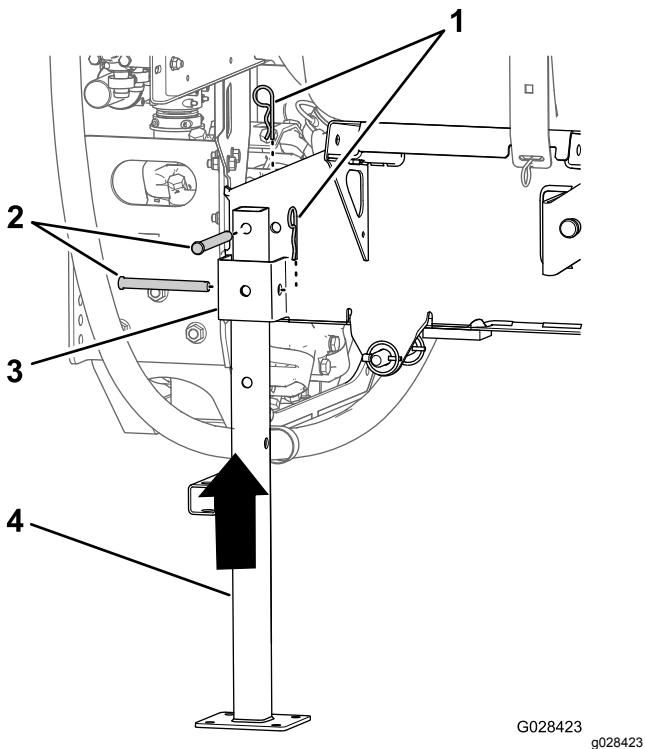

Figure 119
5. Align the rear jackstand with the rear jackstand receiver (Figure 119).
- 6. Align the hole in the top of the jackstand with the hole in the frame of the tank skid (Figure 119)
- 7. Secure the jackstand to the receiver and the frame with 2 clevis pin (1/2 x 4-1/2 inch) and 2 hairpins (5/32 x 2-5/8 inch) as shown in Figure 119.